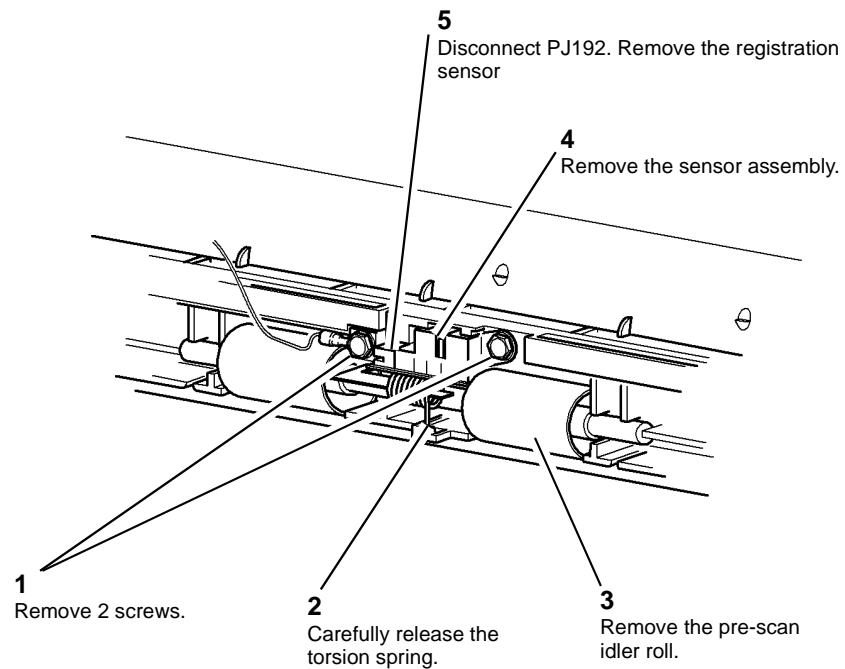

Figure 1 Registration sensor
2. Remove the registration sensor, Figure 1.